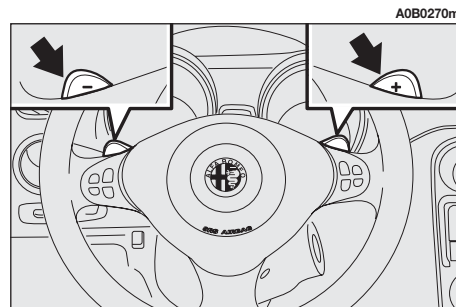

fig. 131
- the levers on the steering wheel (**fig. 131**), which can be used only when the vehicle speed exceeds 0.5 km/h.